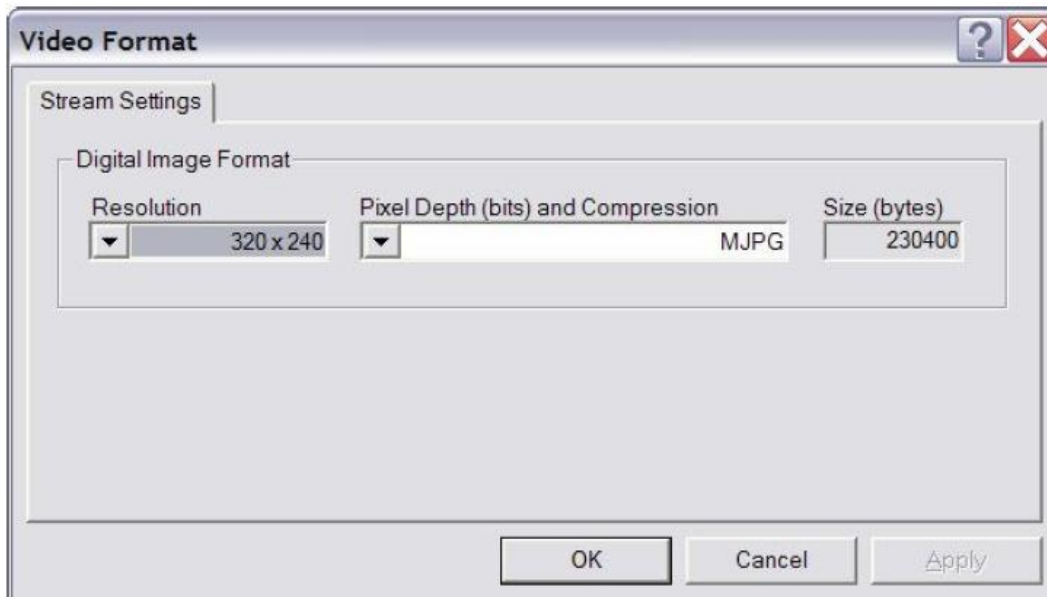

Figure 8. Web Cam Settings Dialog
To enable video logging, select the menu item Settings / Video Capture / Enable to enable video logging. Then select the menu Settings / Video Capture / Options to see available video sources for the Main and Auxiliary Video. Figure 7 and Figure 8 show the Main and Auxiliary video settings dialog tabs, respectively.
4. On the popup dialog box (should be the same or similar to the one shown in Figure 8) select the image resolution that matches your choice of image size. If there are codec options available, select RGB or uncompressed. If neither RGB nor uncompressed is available, select any of the codecs (a faster one is better) and make sure that the selected codec has been installed on the machine.